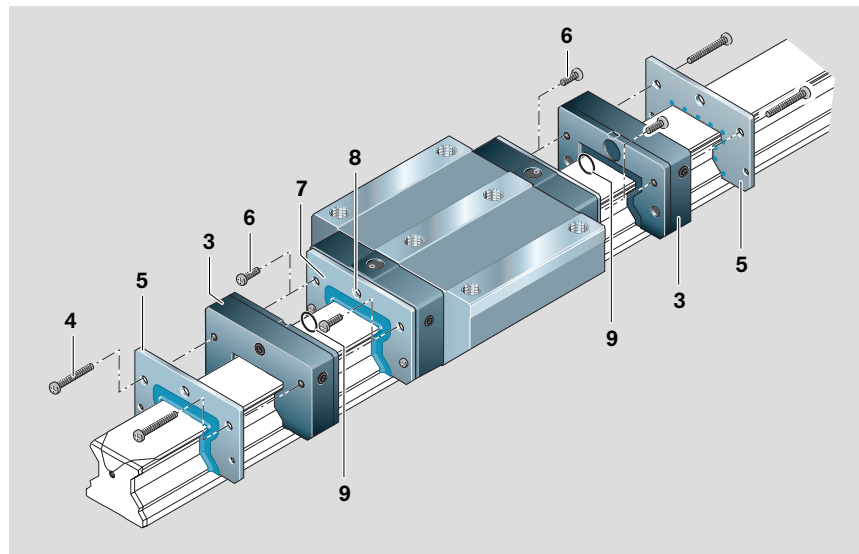

Fig. 3
**⚠ Mount one front lube unit at each end of the runner block (Fig. 3, item 3)!**
- Remove screws (Fig. 3, item 6) – in size 65, there are four screws. Discard these screws (6)!
- If there are any end seals (7) already mounted on the runner block, leave them in place.
- Slide on the front lube units (3) and the additional end seals (5) and align them with the runner block.
- For size 25, remove the set screw (8) and insert the O-ring (9) between the runner block and the front lube units.
**⚠ Mount the additional end seals (5) so that the sealing lips fit snugly all around the guide rail.**
- Tighten screws (4) with tightening torque  $M_A$  (see Table 3).